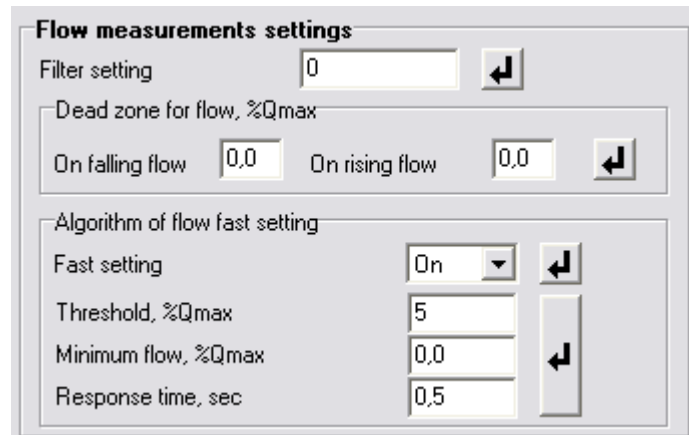

Fig.7. "Flow measurement settings" window
2.3.1. **Flow measurements settings** tab is located in the Viewer main window (Fig.7).